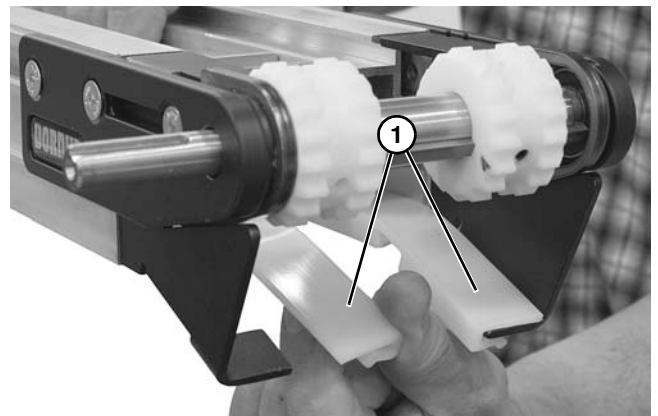

Figure 67
3. Remove lower wear strips (Figure 67, item 1).